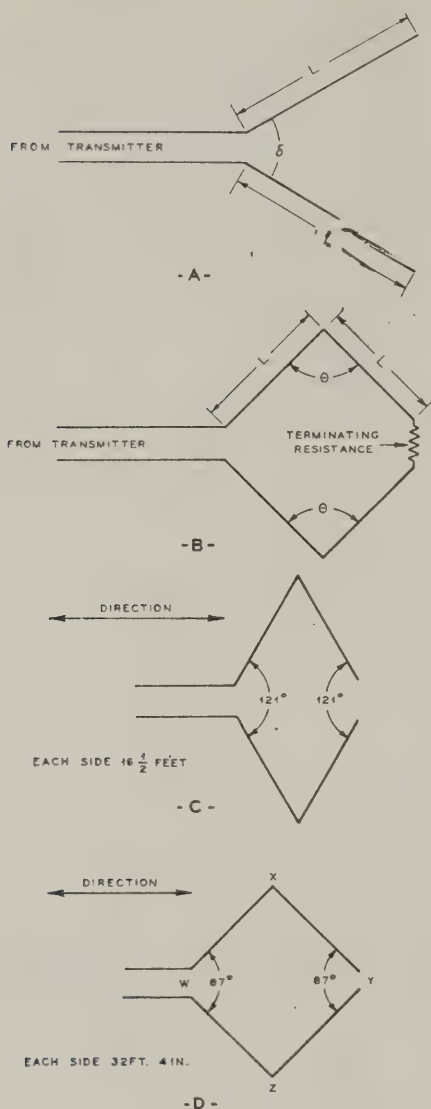

FIG. 106
● A very effective directional antenna having a low angle of radiation of horizontally polarized waves is shown in Fig. 106 (A). This non-resonant *Diamond* antenna consists